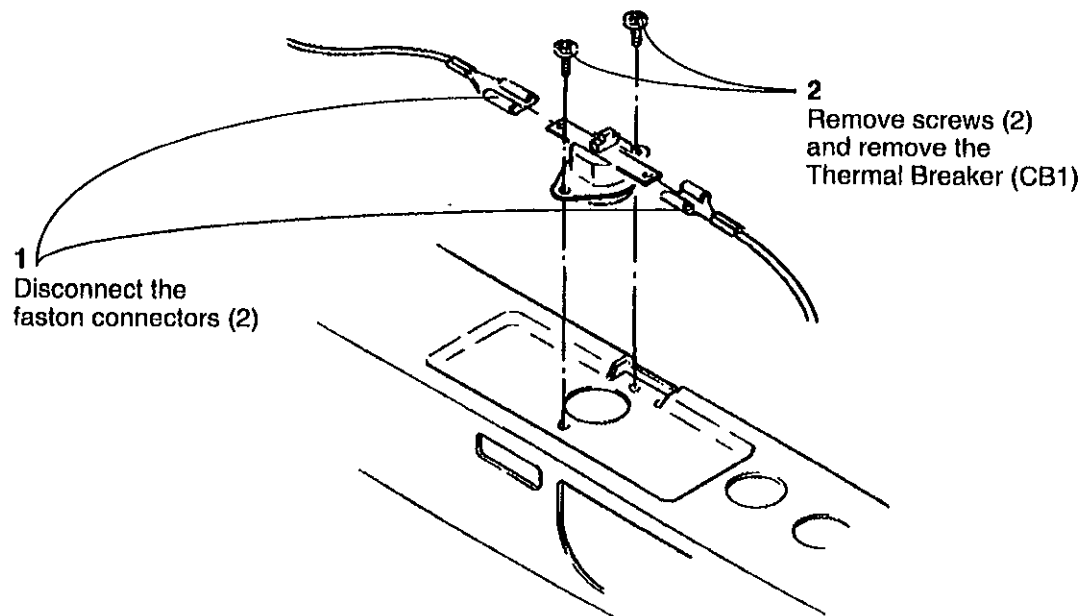

Figure 1. Removing the Thermal Breaker (CB1)
- 2 (Figure 1) Remove the Thermal Breaker (CB1)